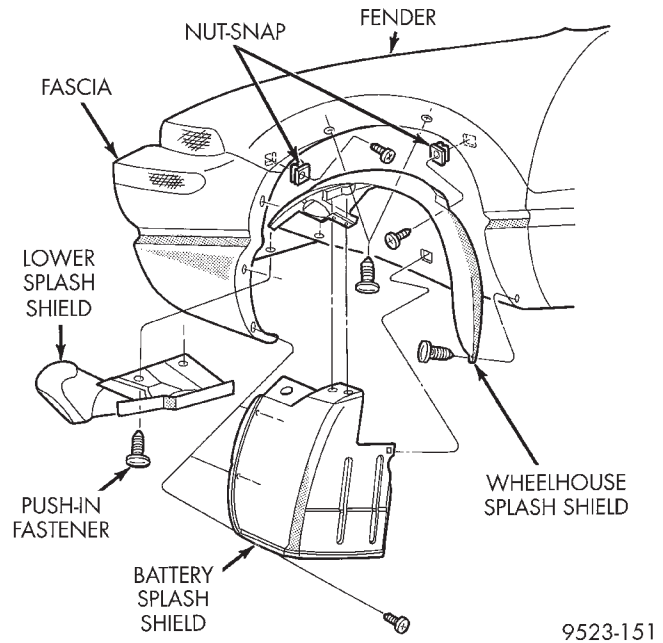

Fig. 7 Left Front Wheelhouse Splash Shield
- (1) Remove screws holding battery splash shield to front bumper fascia (Fig. 7).
- (2) Rotate half turn retainers holding battery splash shield to wheelhouse splash shield counterclockwise.
- (3) Separate battery splash shield from wheelhouse splash shield.
- (4) Rotate half turn retainer holding battery splash shield to frame rail counterclockwise.
- (5) Separate battery splash shield from vehicle.
- (1) Hoist and support vehicle on safety stands.
- (2) Remove left front wheel, refer to Group 22, Wheels and Tires for proper lug nut tightening procedures.
- (3) Remove battery splash shield.
- (4) Remove screws holding wheelhouse splash shield to front fender lip (Fig. 7).
- (5) Remove push-in fastener holding wheelhouse splash shield to fender at the rocker panel.
- (6) Remove push-in fasteners holding wheelhouse splash shield to fender support.
- (7) Separate wheelhouse splash shield from vehicle.